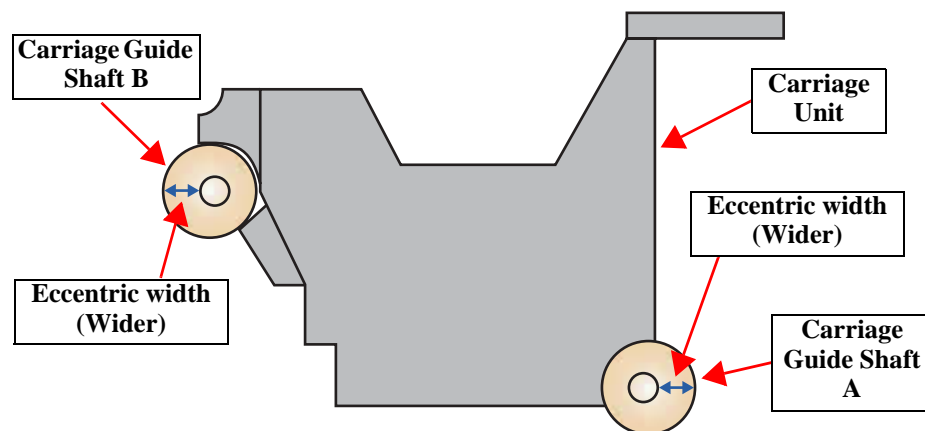

Figure 4-79. Removing the Carriage Unit and Carriage Guide Shaft A
- When lifting the Carriage Unit, fully take care not to scratch the Carriage Guide Shaft B. Refer to Figure 4-79, "Removing the Carriage Unit and Carriage Guide Shaft A".